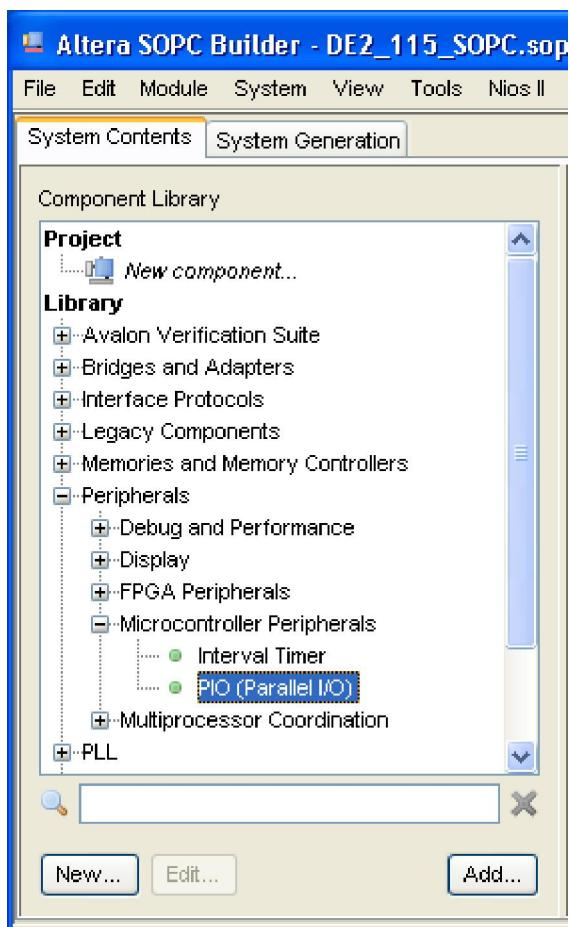
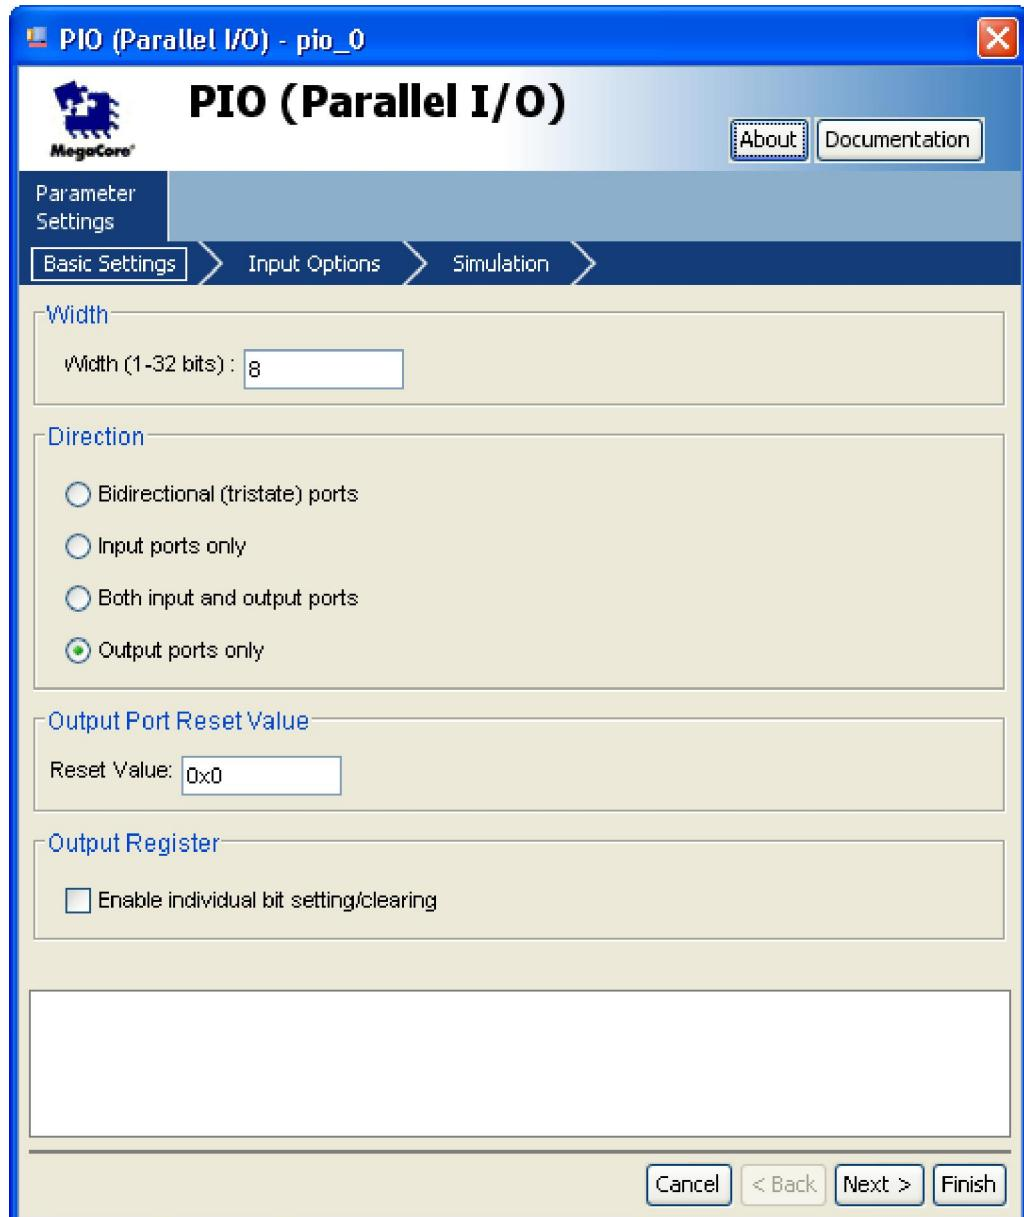

Figure 1-30 Add PIO
Figure 1-31 Add PIO
19. Choose **Library > Peripherals > Microcontroller Peripherals > PIO (Parallel I/O)** to open **Processors and Peripherals > Peripherals** wizard of adding PIO. See **Figure 1-30** and **Figure 1-31**.